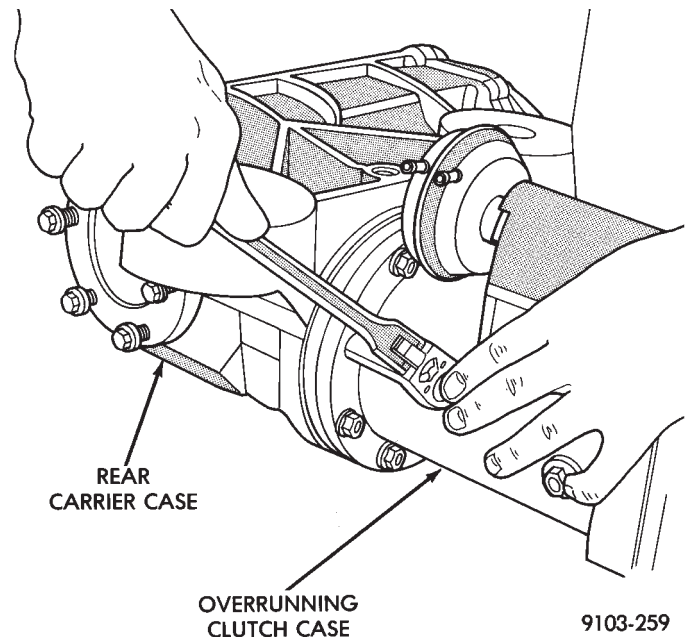

Fig. 6 Overrunning Clutch Case to Rear Carrier Case Bolts
(2) Drain oil from overrunning clutch case.
(3) Remove overrunning clutch case to rear carrier case bolts (Fig. 6).